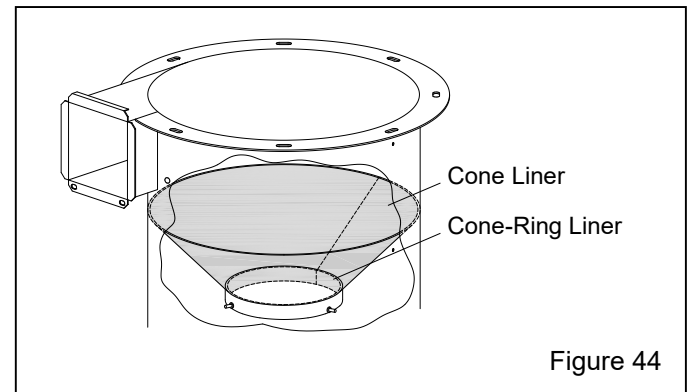

Figure 44
7.11.13 The cone liner and cone-ring liner, shown in Figure 44, are glued onto the inner cone. Pull off the liners to remove them.